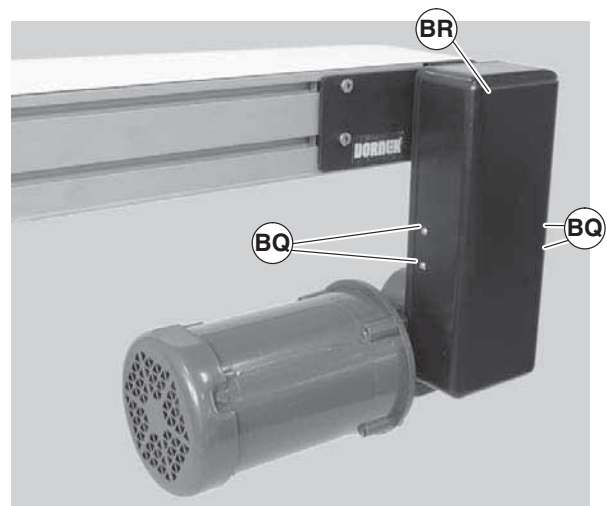
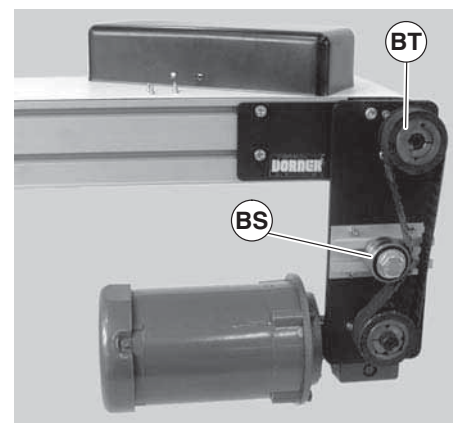

Figure 59
Figure 60
- Loosen tensioner (Figure 59, item BS).
- Remove taper-lock screws (Figure 60, item BU) on the driven pulley (Figure 59, item BT). Insert one
(1) of taper lock screws (Figure 60, item BU) in remaining hole (BV). Tighten screw (BU) until pulley is loose. Remove pulley, taper hub assembly and timing belt.